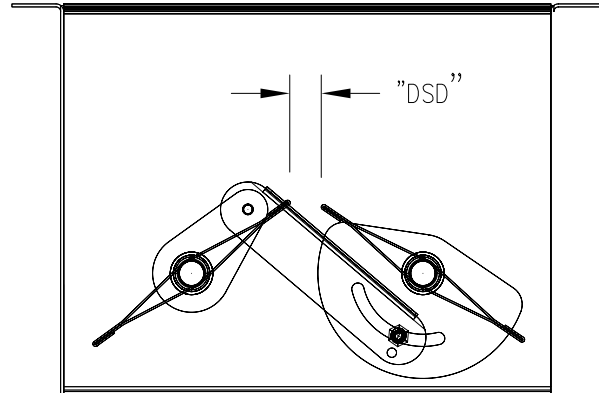

Figure 2-20-2
1. Model GBD (Gaylord Balancing Damper) is a manually adjusted balancing damper with internal setting (refer to Figure 2-20-2). Adjustment is made by removing the Extractor under the exhaust duct collar and reaching up with a wrench to the Adjusting Nut. The nut is loosened, dampers manually adjusted and the Adjusting Nut retightened.
The adjustment of all the models relies on the internal dimension between the two blades called the Damper Set Dimension, "DSD" (Refer to Figure 2-20-2). The manipulation of this distance will balance the airflow between multiple section Ventilators. Refer to the Measuring Airflow section beginning on page 5-1 for more details.